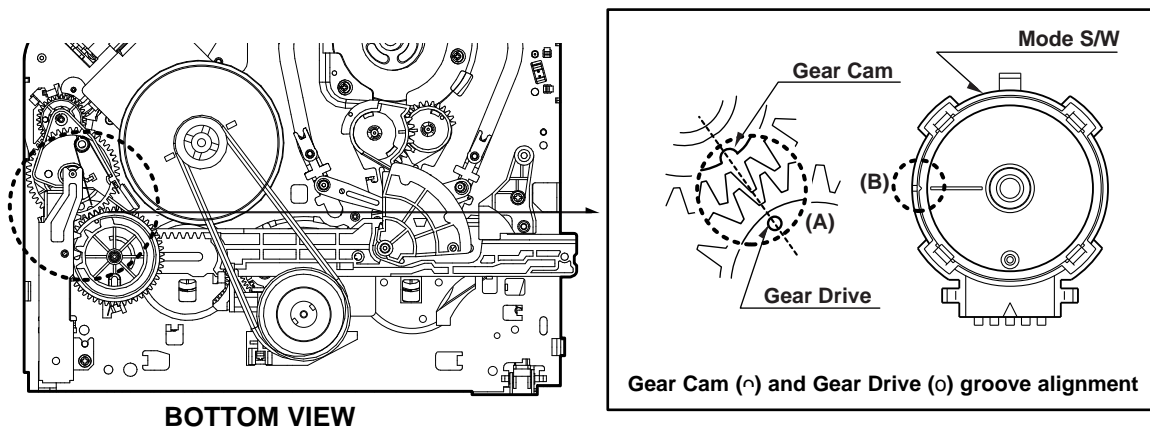

Fig. C-1
4) Remove the Screw which fixes the Deck Mechanism and Main Frame and confirm if the Gear Cam is aligned with the Gear Drive as below Fig. C-1(A).
5) Confirm if the Mode S/W on the Main P.C.Board is aligned as below Fig. C-1(B).